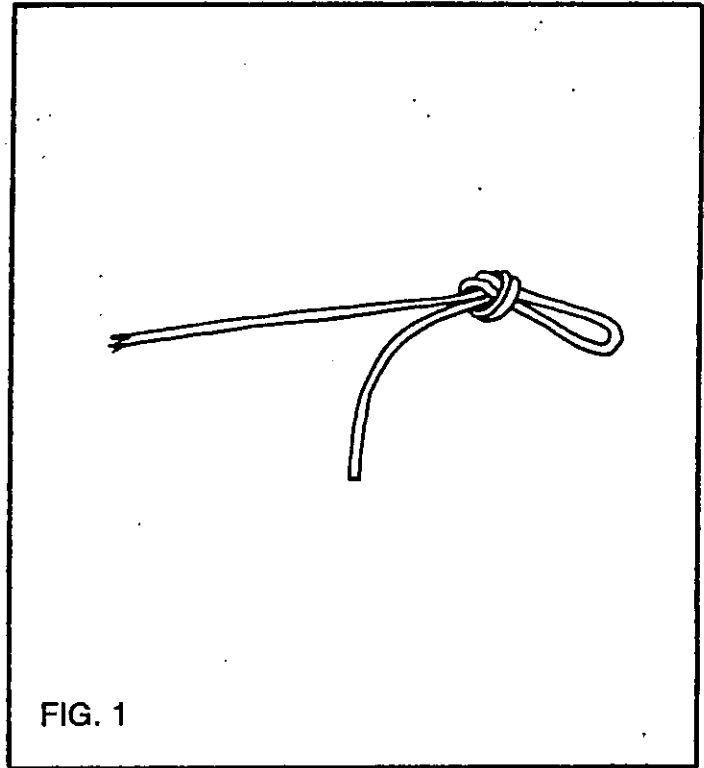
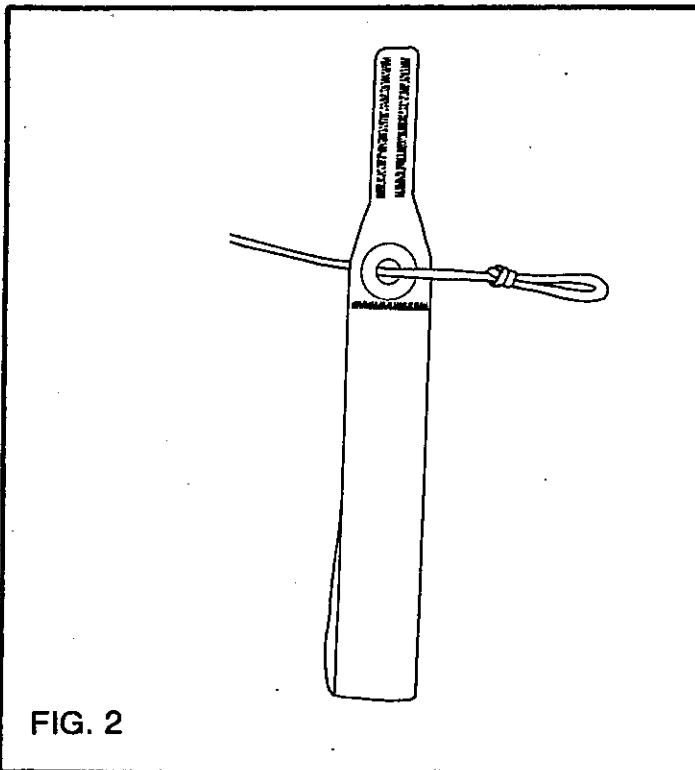

FIG. 1
FIG. 2
3) To attach the DOLPHIN reserve pilot chute to a round reserve canopy, use the bridle supplied by ALTICO. The bridle has a large loop at one end, and a smaller loop at the other end. The smaller loop should be used to attach the bridle to the canopy as shown in FIG. 1. Tack the loop securely in place, being sure that the lines at the apex of the canopy are free to move back and forth in the loop. The bridle must not be allowed to cinch down on the apex lines. Then attach the pilot chute to the other end of the bridle. (The purpose of the larger loop is to accommodate the top plate of the pilot chute.)
4) When the suspension lines have been stowed on the full diaper, there should be about 8" to 12" of lines unstowed between the diaper and the connector links. Bring the diaper up over the upper end of the reserve pack tray and lay the risers into the reserve container so that they lie flat with no twists. Now position the diaper in the lower left corner of the reserve container, and if the diaper does not fill the bottom of the container from side to side, make a small fold with the canopy in the lower right corner to equalize the bulk as shown in FIG. 2.
Double the control line back on itself below this mark and tie an overhand knot as shown in FIG. 1. The loop should be approx. 1" long, and the mark should be on the canopy side of the knot when it is tightened. Cut the remainder of the control line to a length of approx. 8" (with scissors, *not* a hot knife), and fingertrap the end into the control line. Do not sew the fingertrapped part. Now pass the knotted end of the control line thru the grommet as shown in FIG. 2, then put the lower end of the toggle thru the loop as shown in FIG. 3. Tighten the loop on the toggle as close to the grommet as possible.